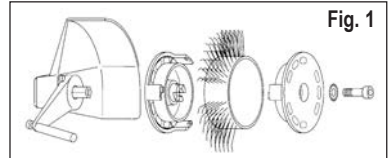
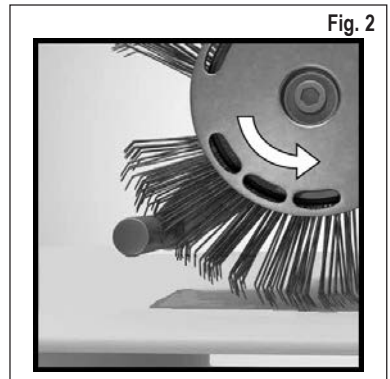

Fig. 1
Fig. 2
3. Interrupt supply of compressed air and then fasten Bristle Blaster® 23 mm or 11 mm Belt correctly to the tool using the related Adaptor System (pay attention to direction of travel) and the related serrated lock washer and screw. See Fig. 1 and Fig. 2
- Are you using a Bristle Blaster® Belt with the wrong direction of travel? – Fit the Bristle Blaster® Belt such that it runs in the correct direction (see section 7, Placing in operation, Fig. 2).